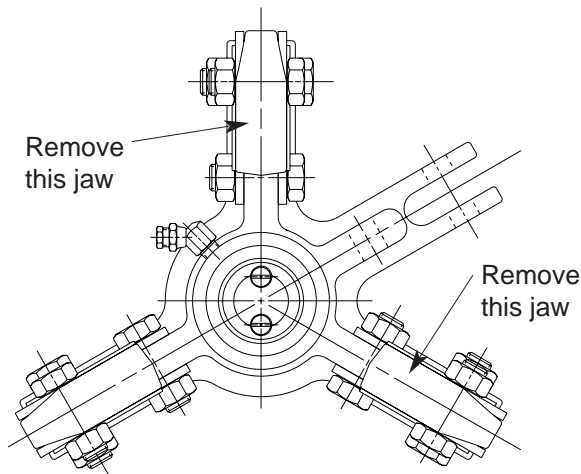

FIGURE 4
1. Remove the jaws and straps as shown in Figure 4.